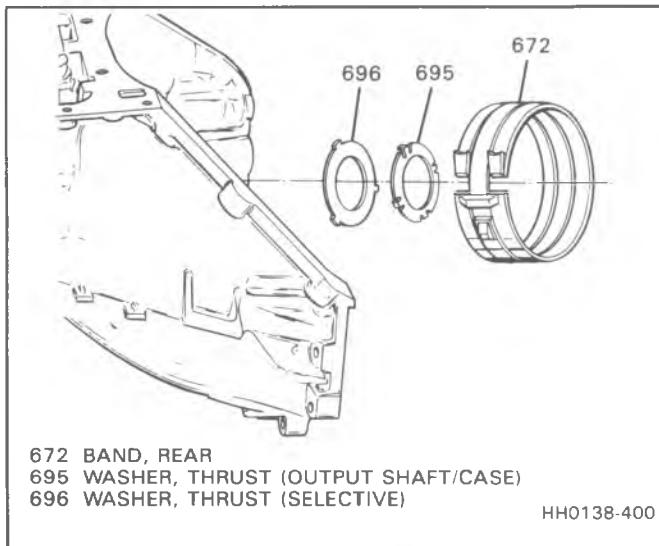

Figure 33 - Installing Rear Band and Selective Thrust Washer
Inspect (Figure 33)
**Install or Connect (Figure 33)**
1. Selective thrust washer (696) from Rear End Play Check.
2. Output shaft to case thrust washer (695).
3. Rear band (672).